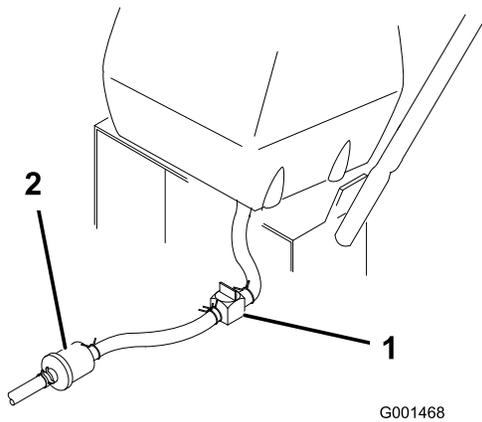

Figure 30
- Close the fuel shut-off valve at the fuel tank (Figure 30).
- Squeeze the ends of the hose clamp together and slide it up the fuel line away from fuel filter (Figure 30).
- Pull the fuel line off the fuel filter (Figure 30). Open the fuel shut-off valve and allow the gasoline to drain into a gas can or drain pan.
3. Close fuel shut-off valve at the fuel tank (Figure 30).
7. Open fuel shut-off valve at fuel tank (Figure 30).